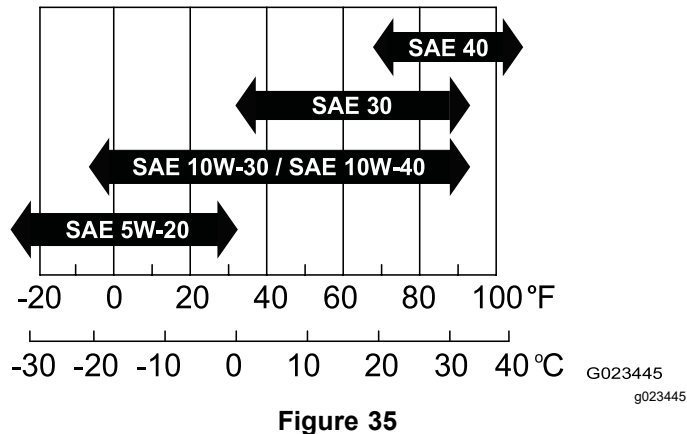

Figure 35
- **Viscosity:** SAE 30; refer to the following chart for other viscosities (Figure 35):